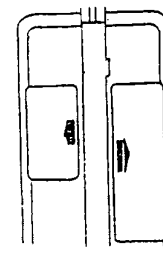

Figure 8
5. Press the left battery compartment cover's tab and slide the cover off in the direction of the arrow (see Figure 8).